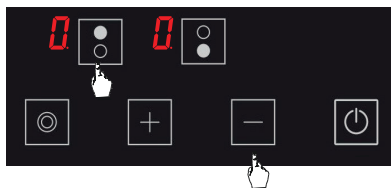

Figure 14
1. Press upper hob selection key (🔼) and minus key (⊖) simultaneously, you shall hear a short warning signal at this time. (see Fig. 14) Then, remove your fingers from the stove control panel.